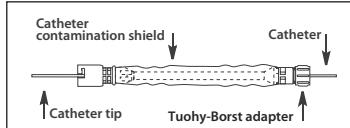

Figure 1
1. If using a flow-directed catheter prepare according to manufacturer's instructions. Wet balloon with flush solution to facilitate passage through catheter contamination shield. Advance catheter through tubing and hub at other end (refer to Figure 1).
- a. If using a catheter contamination shield with Tuohy-Borst adapter, insert tip of desired catheter through Tuohy-Borst adapter end of catheter contamination shield. Advance catheter through tubing and hub at other end (refer to Figure 1).